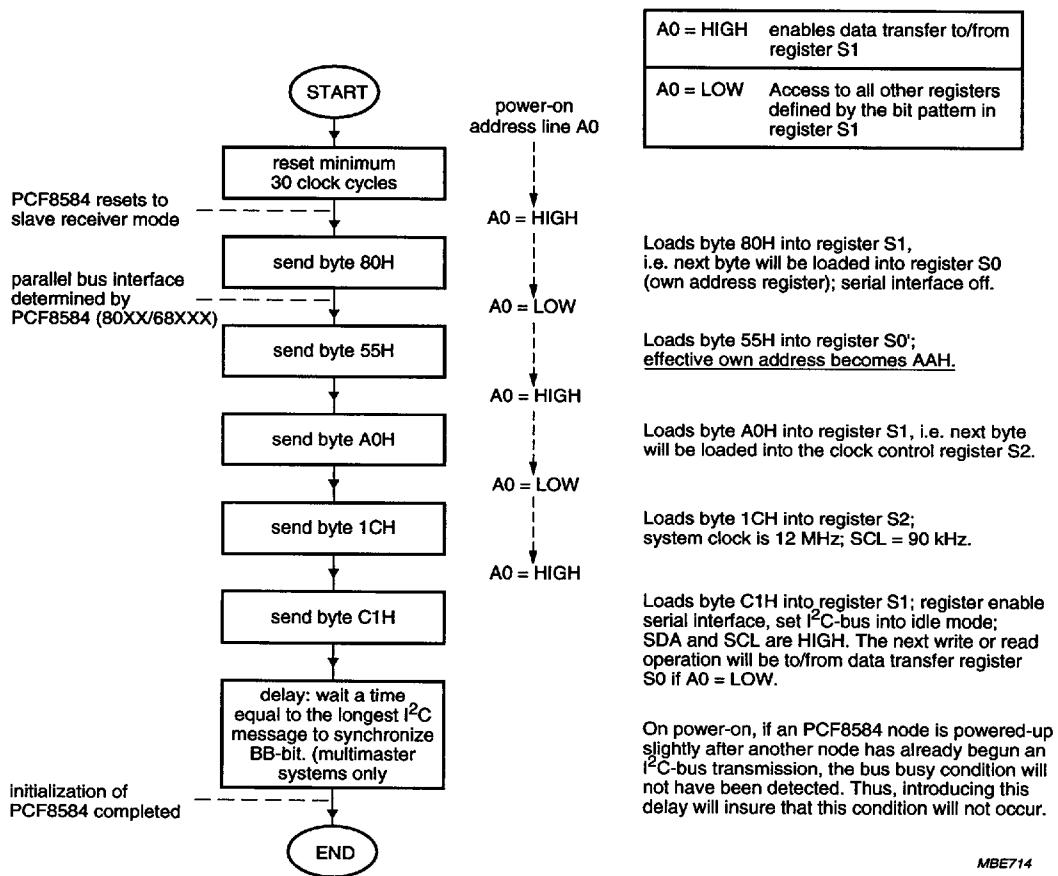

Fig.5 PCF8584 initialization sequence.
- When powering up multiple PCF8584s in multi-master systems, the possibility exists that one node may power up slightly after another node has already begun an I²C-bus transmission; the Bus Busy condition will thus not have been detected. To avoid this condition, a delay should be introduced in the initialization sequence of each PCF8584 equal to the longest I²C-bus transmission, see flowchart 'PCF8584 initialization' (Fig.5).
The flowchart of Fig.5 gives an example of a proper initialization sequence of the PCF8584. When implemented in 808X-type bus systems with peripherals sharing a common WR signal, this procedure should be executed first before communicating with other bus peripherals to avoid false programming of the PCF8584 (see Section 6.2)